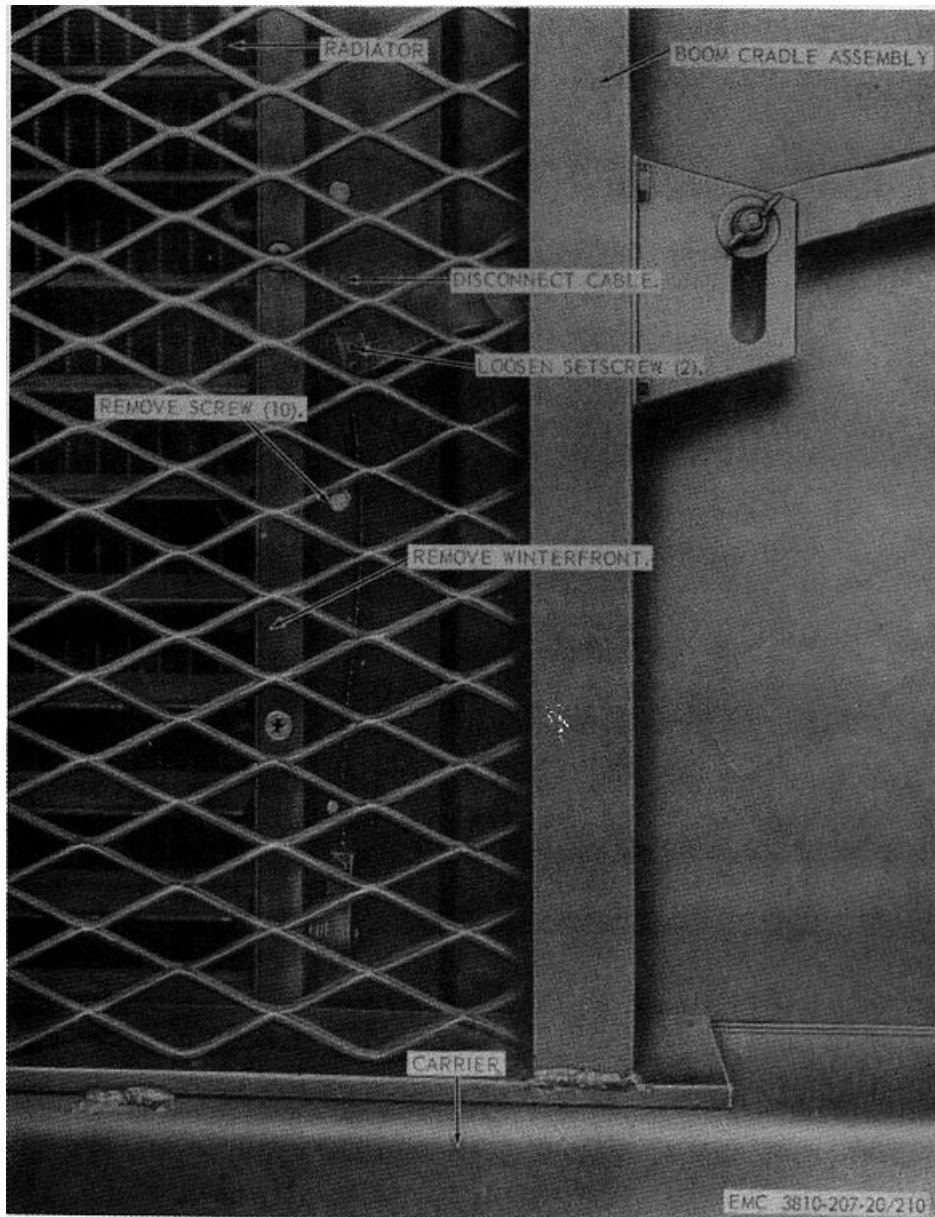

Figure 210. Carrier engine winter front, removal and installation.
- (1) Remove boom cradle (par. 171).
- (2) Remove carrier engine winter front as instructed on figure 210.
- (1) Install the carrier engine winter front as illustrated on figure 210.
- (2) Install the boom cradle (par. 171).